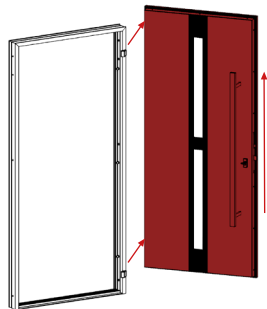

Fig. 7.
3.1. Remove the door leaf from the frame (Fig. 7).